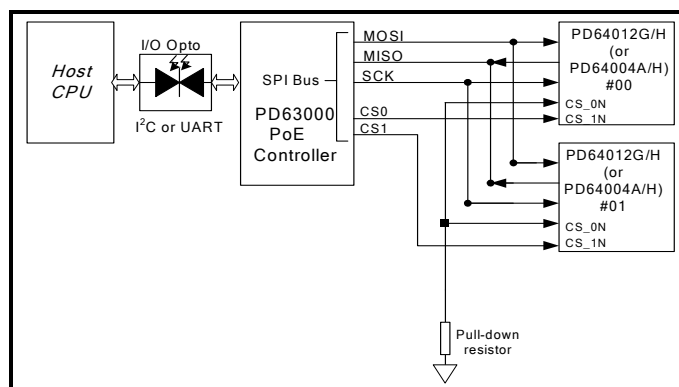

Figure 2-2: Enhanced Mode- Utilizing the PD63000
2. PoE system based on the PoE controller (PD63000) and two PoE managers ICs (PD64012G/H or PD64004A/H) shown in Figure 2-2 and functioning as slaves to a PoE Controller.